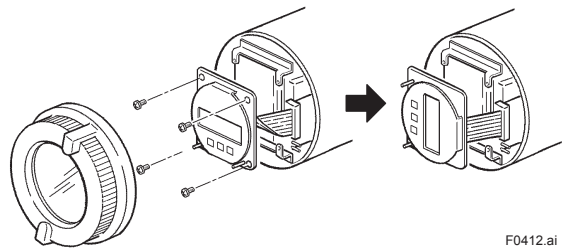

Figure 4.2.3 Procedure of Altering LCD Display Orientation
LCD display orientation can be altered according to piping configurations if horizontal or vertical, just by removing four screws, adjusting unit orientation and fixing the screws tightly again as shown in Figure 4.2.3.
- Orientation of display unit is limited to the two positions shown in Figure 4.2.3.